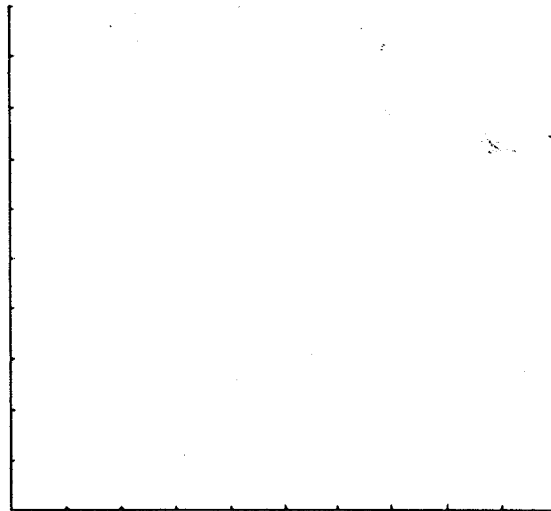

Figure 12
2. Push the FUNCTION SELECTOR BUTTON once more to select the next cal function, "Y Scale." The IE-17A will then automatically draw a Y-axis line with 10 calibration "tick marks." An X-Y scale drawn by an IE-17A is shown in Figure 12 below.